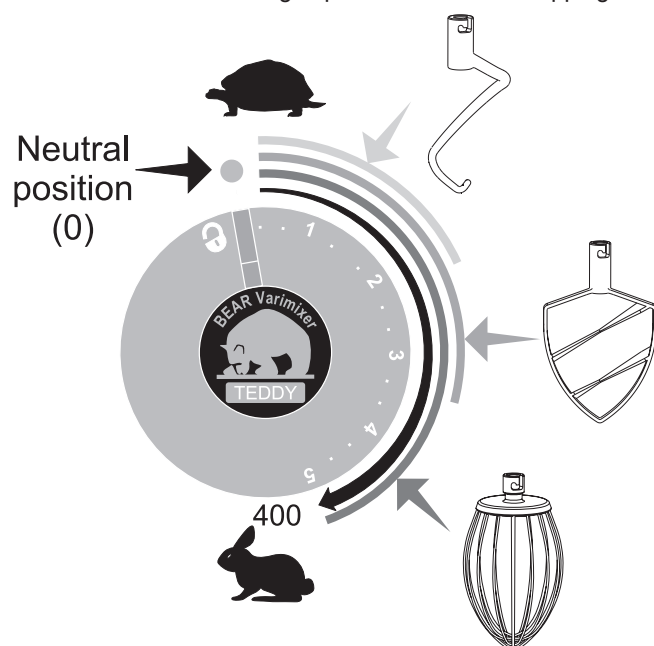

Fig. 2 Recommended working speeds
- G. Start the mixer by turning the control button away from the locking symbol and past 1. To avoid splashing and dust from flour, it is recommended to increase the speed gradually until the required speed is obtained (fig. 3C), (see fig. 2 for recommended working speeds).